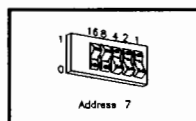

Figure 4-1. Address 7
- Set the HP-IB bus address according to Table 4-1. An example of setting the HP-IB bus address to 7 is shown in Figure 4-1.